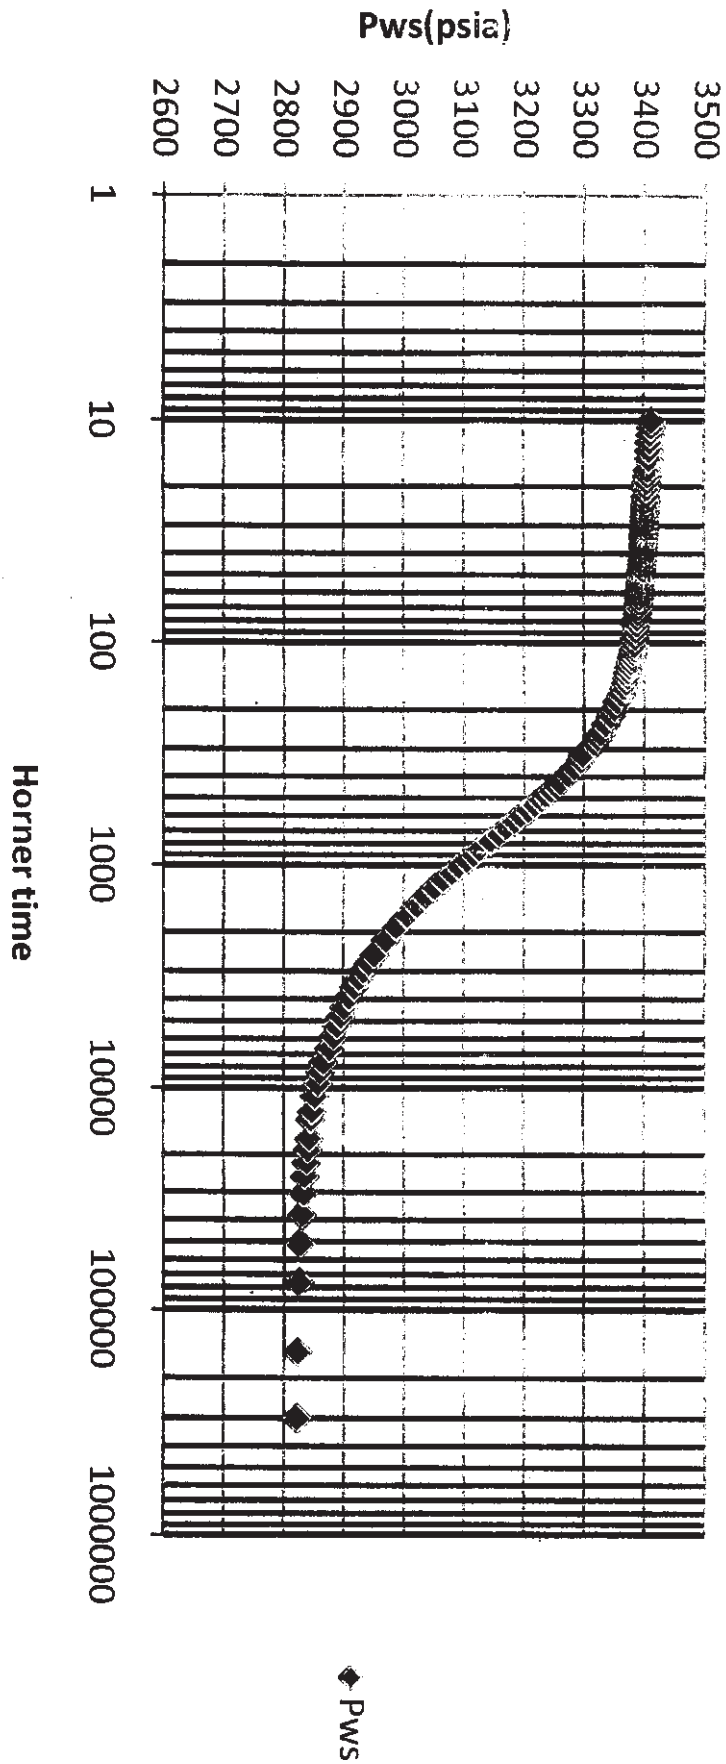

Figure 5
- 8) *If you attempt question 5, detach figure 5 and attach inside the answer booklet.*
- b) (If you attempt this question, attach Figure 5 inside the answer booklet). For the gas well test in the figure 5, find permeability and skin factor for pressure, pressure squared and pseudo pressure (ψ , PP) analysis. Show ETR, MTR, LTR clearly on graph. Data: $q = 1100$ MSCF/D, $t_p = 2940$ minutes, $T_r = 248$ F, Porosity = 7.7, $r_w = 0.2$ ft, $c_t = 1.26E-4$, viscosity = 0.0216 cp, $h = 8$ ft, $A = 320$ acre, average reservoir pressure = 3567 psi, $z = 0.9305$, gas gravity = 0.7, $P_{wf} = 2292$, $\psi(P_{wf}) = 3460 \times 10^5$. [10]